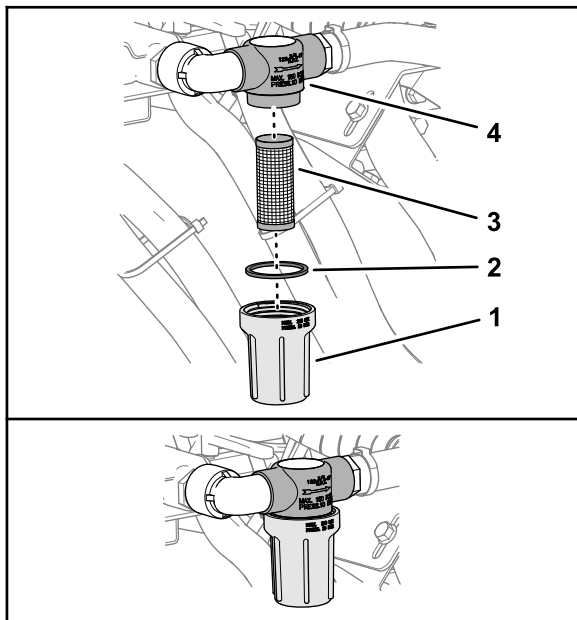

Figure 54
- Rotate the strainer bowl counterclockwise and remove the bowl and screen from the body of the strainer (Figure 54).
- Install the screen into the strainer body (Figure 54).
- Install the gasket and strainer bowl onto the strainer body, and hand tighten the bowl (Figure 54).